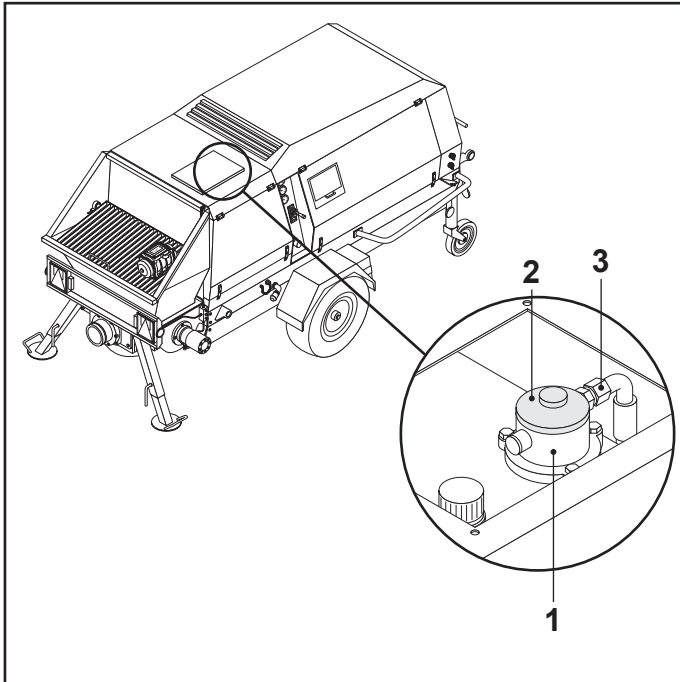

FIG.64
- To change the filter (FIG. 64-REF. 1) unscrew the four screws on the oil filter inspection cover on the fixed casing.
- Unscrew the filter cap (FIG. 64-REF. 2) and remove and replace the filter cartridge.
- Screw the cap back on (FIG. 64-REF. 2) and fasten the inspection cover with the screws.
- Disconnect the hydraulic oil pipe (FIG. 64-REF. 3).